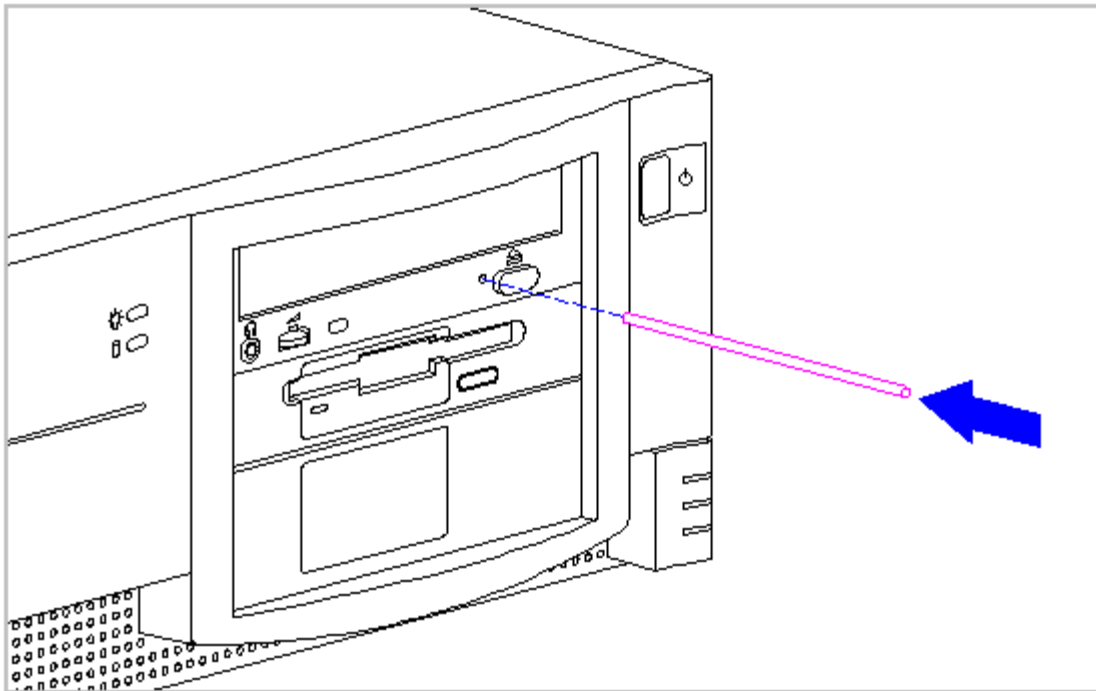

Figure 5-23. Ejecting a Compact Disc Manually
2. Insert a small rod or jeweler's screwdriver [1/16-inch (1.4-mm) blade] into the manual eject hole (Figure 5-23) and push firmly to release the tray. Note that the manual eject hole is immediately adjacent to the drive eject button.